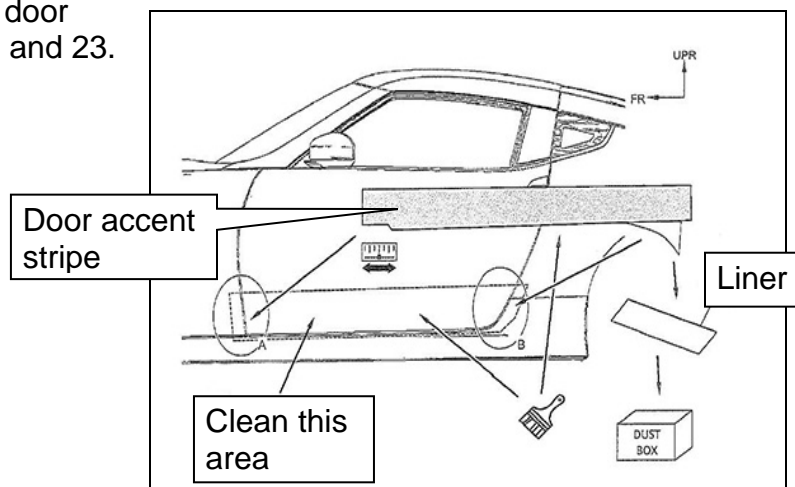

Figure 23
2. Review Figure 23 for the location that the door accent stripe will be applied.